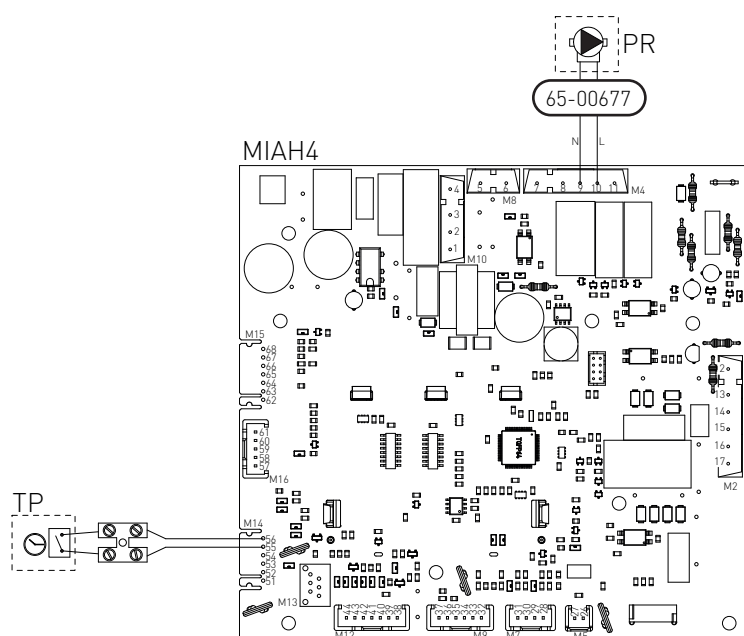

fig. 26
- › After removing the crankcase, connect the items below to the electronic board (see fig. 26):